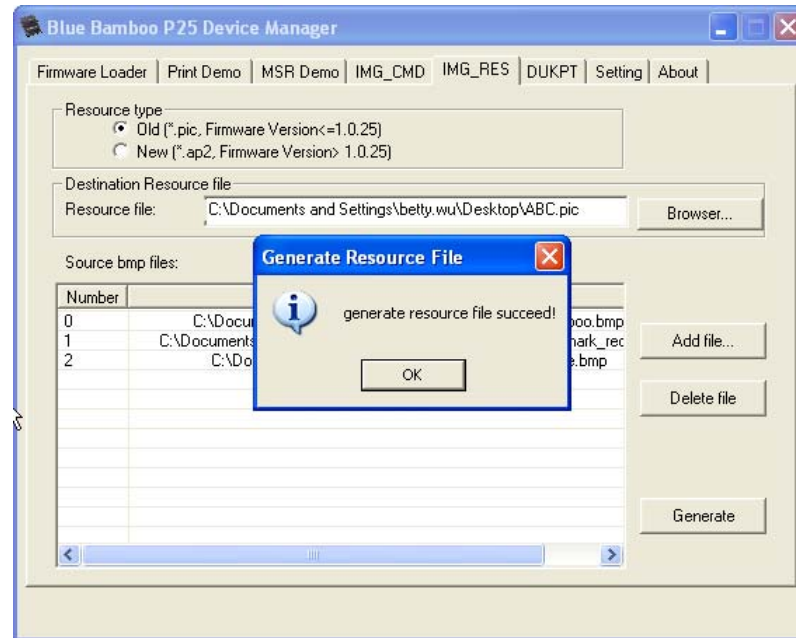

Figure 45
- h. When the generation is finished, success message will display. Now the resource file has been generated successfully. (Figure 45 & 46)